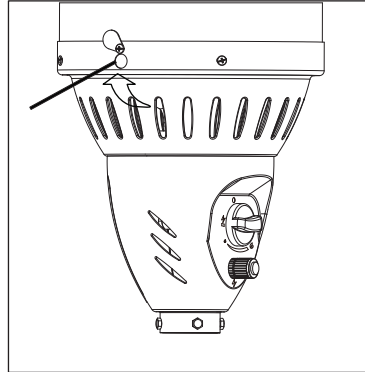

Figure 4
- As you are depressing the control knob, place long stem lighter (not included) into the viewing hole on the head assembly to light the pilot (Figure 4).